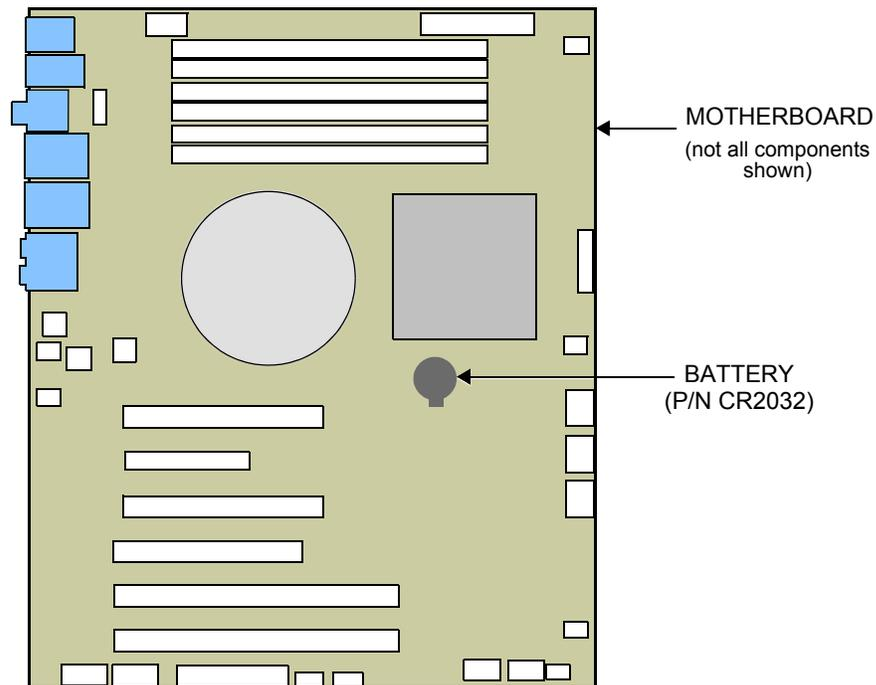

Figure 14 Location of CMOS Battery
2. Locate the CMOS battery on the motherboard (Figure 14). Remove the battery from its holder.